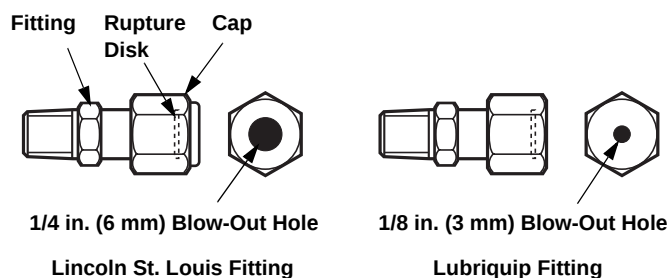

FIGURE 4-11 BLOW-OUT FITTING ASSEMBLY
- Be sure to apply the proper rupture disk to match your blow-out fitting type, see Figure 4-11, and application pressure. Generally the rupture disk should be rated about 1000 psig (70 bar_g) greater than the highest MAWP cylinder.